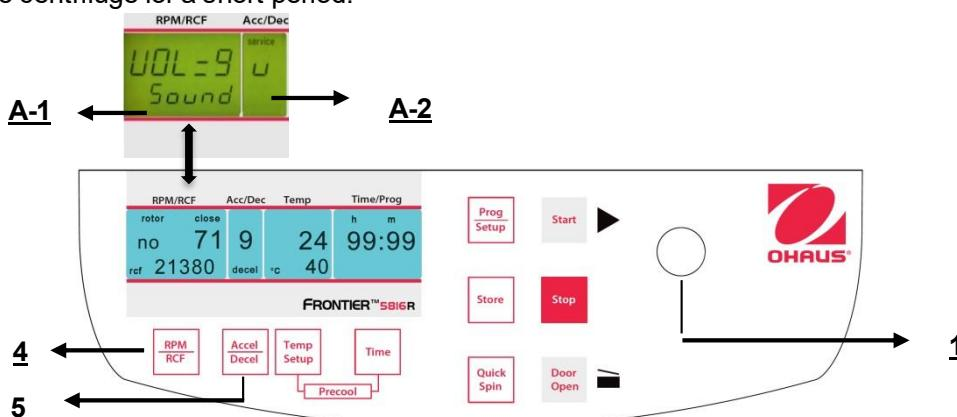

Figure. 33
Proceed as described under point 4.1.1 to enter this program mode and then press the key "**Accel/Decel**" (5). In the display "**Acc/Dec**" (A-2) the word "**Service**" flashes. Now select the letter "**U**" with the adjusting knob (1). As a result, in the display "**RPM | RCF**" (A-1) the words "**Vol=0-9/Sound**" appear. After pressing the key "**RPM | RCF**" (4), you can adjust the desired volume between 0 (low) and 9 (loud) with the adjusting knob (1) (See figure 33).